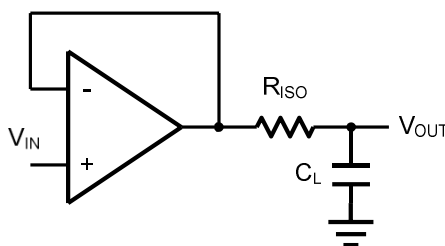
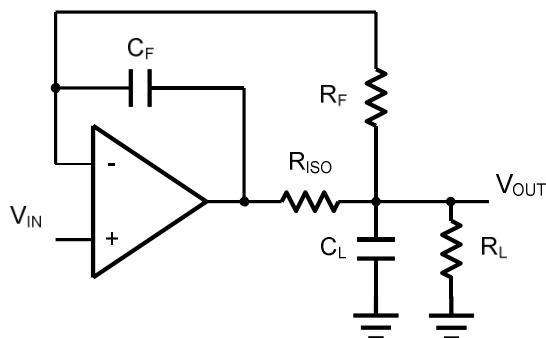

Figure 2. Indirectly Driving a Capacities Load Using Isolation Resistor
Figure 3. Indirectly Driving a Capacities Load with DC Accuracy
The HX855X family is optimized for bandwidth and speed, not for driving capacitive loads. Output capacitance will create a pole in the amplifier's feedback path, leading to excessive peaking and potential oscillation. If dealing with load capacitance is a requirement of the application, the two strategies to consider are (1) using a small resistor in series with the amplifier's output and the load capacitance and (2) reducing the bandwidth of the amplifier's feedback loop by increasing the overall noise gain. Figure 2. shows a unity gain follower using the series resistor strategy. The resistor isolates the output from the capacitance and, more importantly, creates a zero in the feedback path that compensates for the pole created by the output capacitance.
The circuit in Figure 3 is an improvement to the one in Figure 2. RF provides the DC accuracy by feed-forward the VIN to RL. CF and RISO serve to counteract the loss of phase margin by feeding the high frequency component of the output signal back to the amplifier's inverting input, thereby preserving the phase margin in the overall feedback loop.